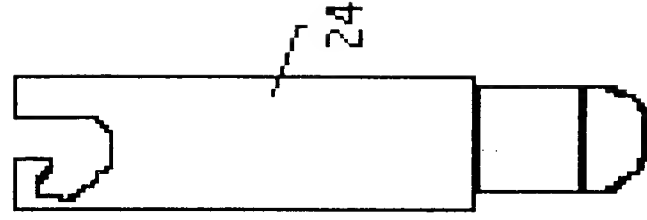

FIG. 9
- Fig 9 shows adaptor for modified spark plug ~~(tip)~~ ^A TERMINAL and conventional spark plug wire, an alternative embodiment.